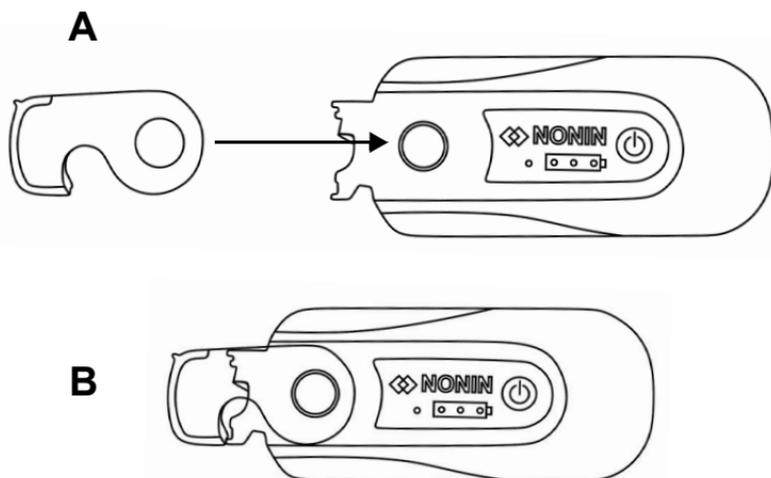

Figure 10. Signal Processor Lock Replacement
1. Align the lock hinge with the connector end of the signal processor. (**Figure 10.A**).
3. Click the lock into place (**Figure 10.B**).